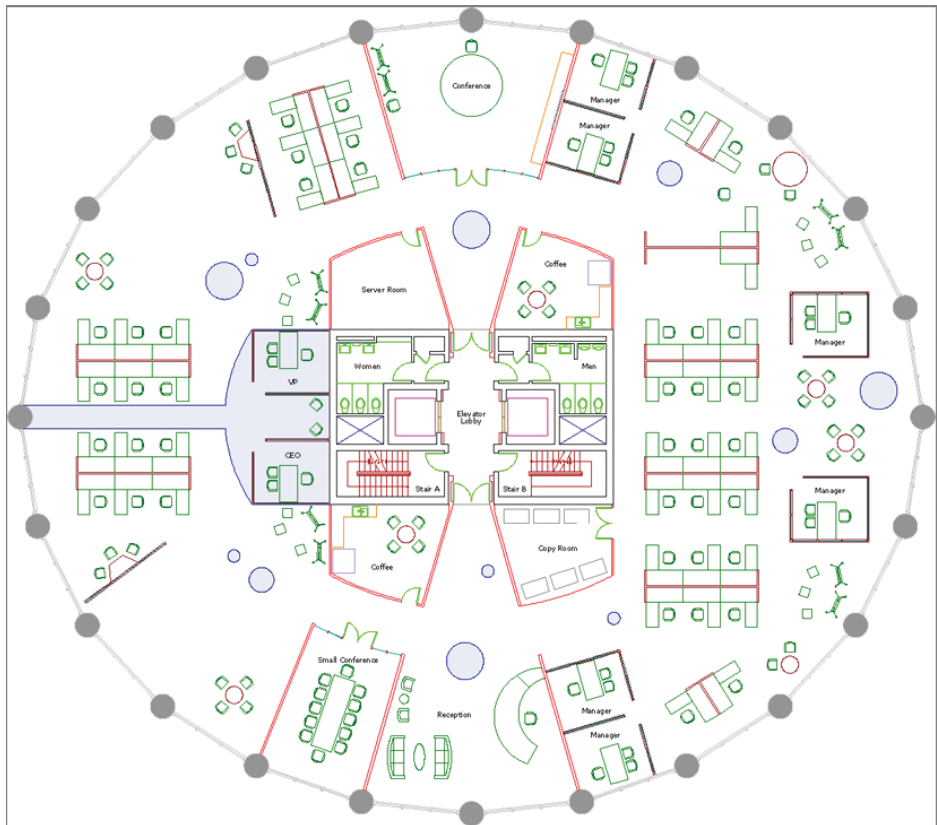

FIGURE 4.1 Office building start file
1. Go to the book's web page at www.sybex.com/go/autocad2014essentials, browse to Chapter 4, get the file *Ch4-A.dwg* (or *Ch4-A-metric.dwg*)—a fictitious office building—and open it (see Figure 4.1).